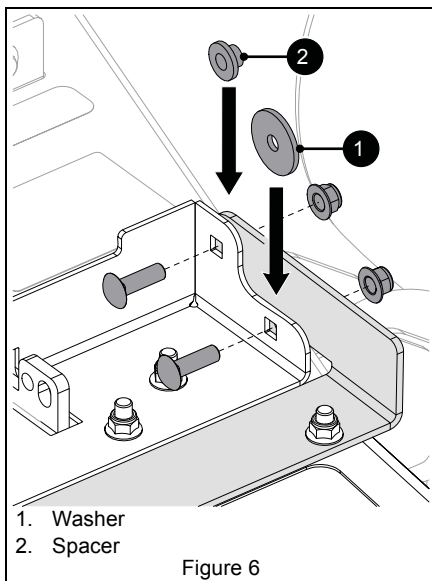

Figure 6
9. Reinstall original hardware on each side of discharge chute assembly. Install spacer in upper hole and washer in lower hole between mounting brackets. See Figure 6.